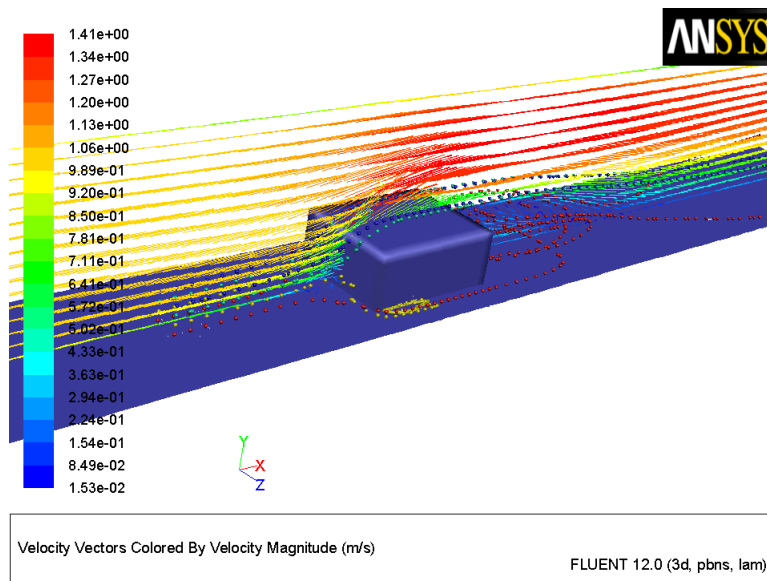

Figure 24.18: Overlay of Velocity Vectors and Pathlines Display
- Use the mouse to obtain the view that is shown in Figure 24.18.
Note: The final display (Figure 24.18) does not require mirroring about the symmetry plane because the vectors obscure the mirrored image. You may disable the mirroring option in the Views dialog box at any stage during this exercise.